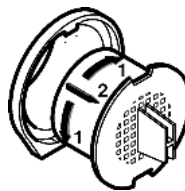

Fig. 36
- ▶ Turn the activated charcoal filter through 90° to the right or left *Fig. 36 (1)*.
- ▶ Remove *Fig. 36 (2)* the activated charcoal filter.
- ▶ Turn the new activated charcoal filter through 90° to the right or left *Fig. 36 (1)* until it snaps into place.